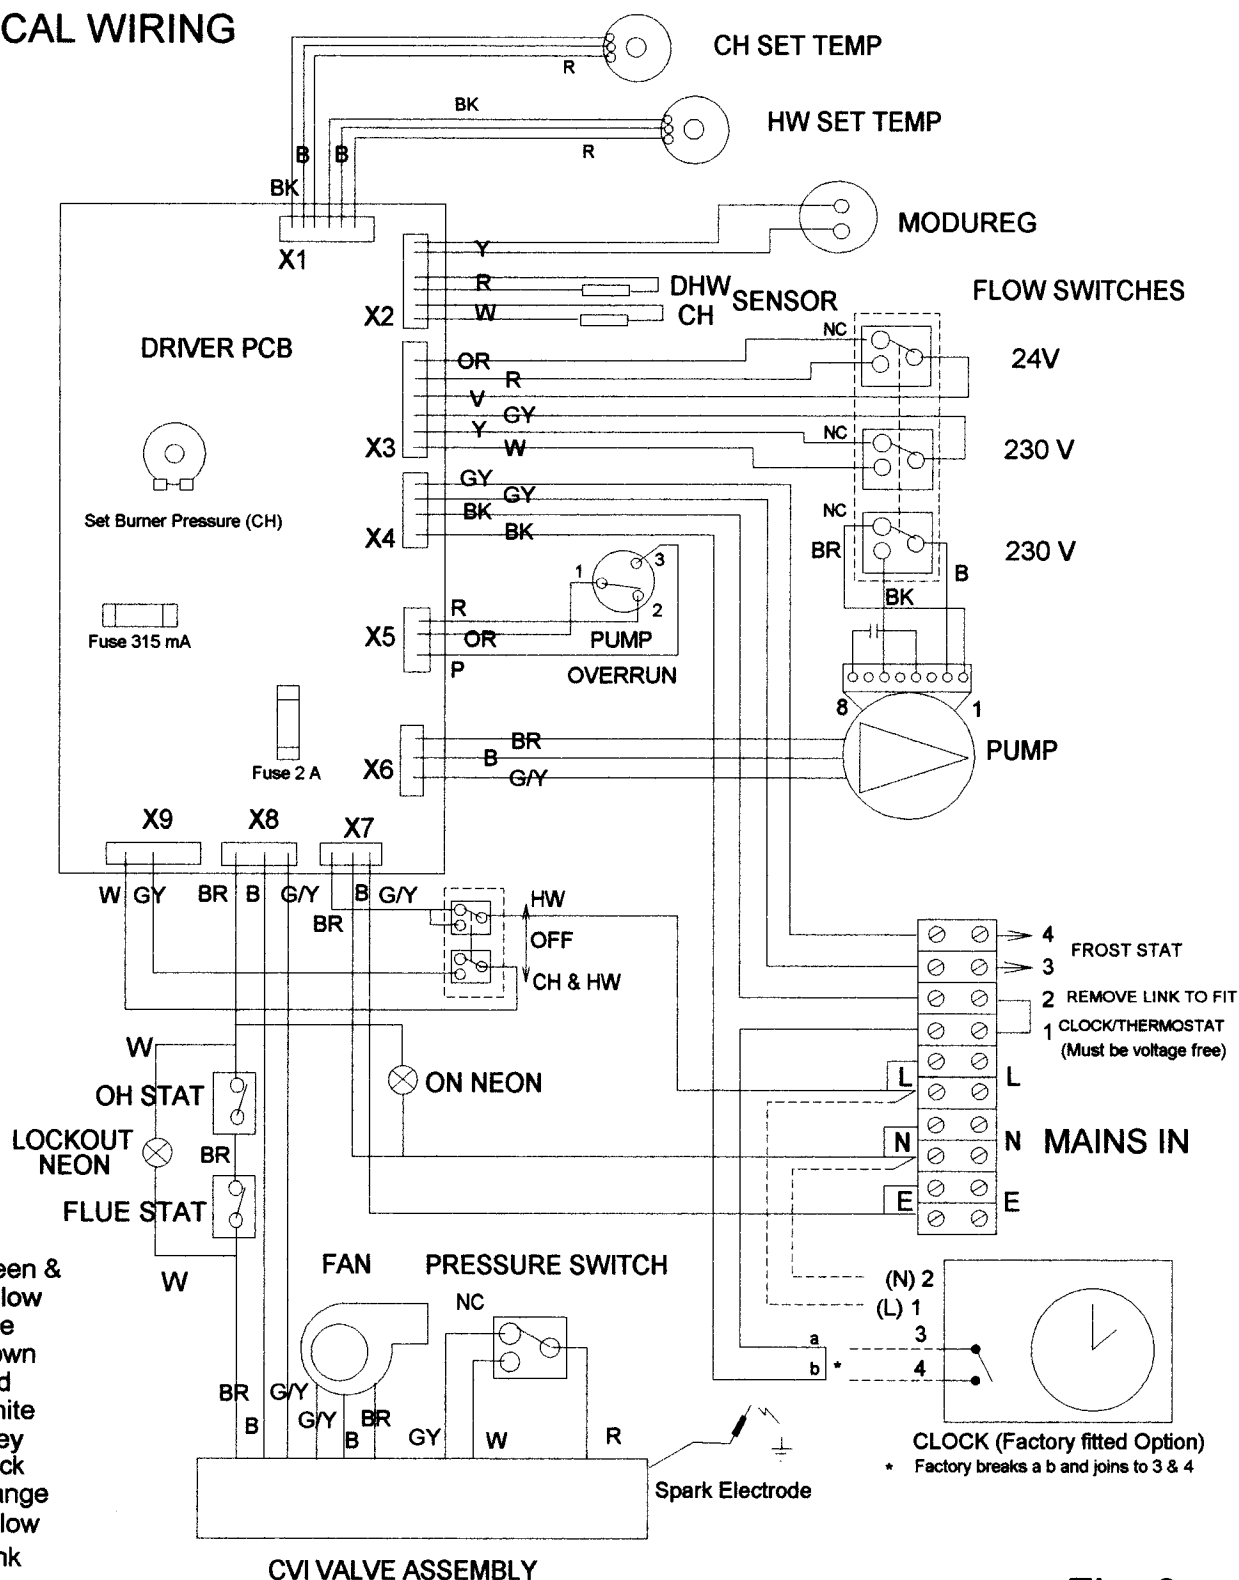

Fig. 3
The boiler internal wiring is shown in schematic form in Fig.3, and 4 connections are as follows:-
- To set the Central Heating output, select CENTRAL HEATING & HOT WATER on the front panel switch and then adjust the burner pressure potentiometer on the driver Pcb (Fig. 3) to that given in the Datatable.